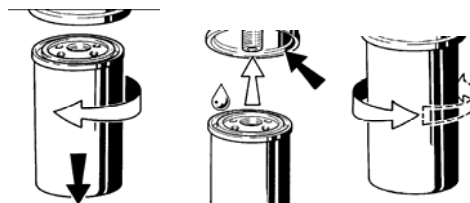

Fig. 7.2.2
(2) Change oil filter (Fig. 7.2.2):
(3) Checking valve clearance (see x in Fig. 7.2.2.1)
SOME ENGINES MAY NOT HAVE ELEMENT NUM. 4 OF Fig. 7.2.2.1. THE PROCEDURE IN THIS CASE IS DESCRIBED BELOW